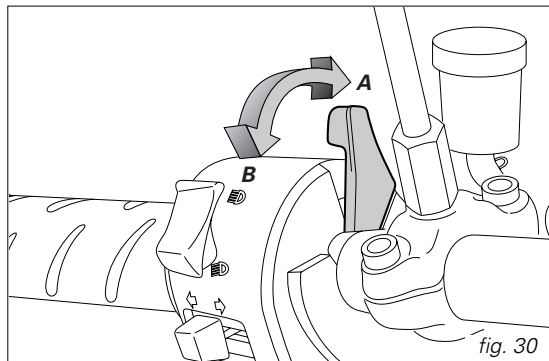

fig. 30
- 2) Move the fast-idle lever to position (B) (fig. 30).